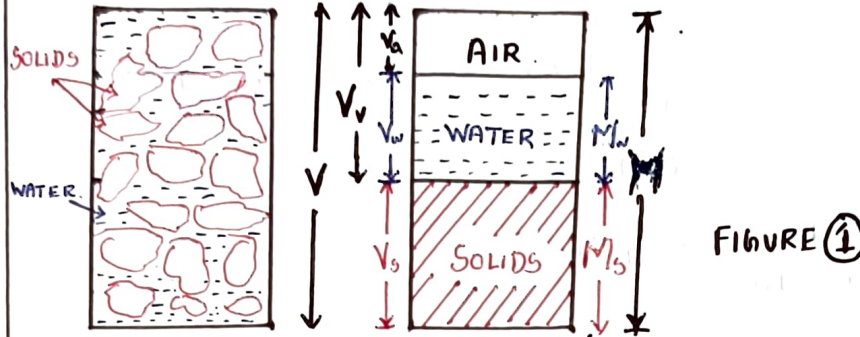

FIGURE 1
b. From fig 1 we have $V_v = V_a + V_w + V_s$.